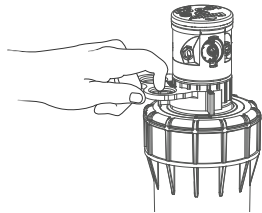

Figure 1
- 1 Slide the adjustment wrench PN 382800SP onto the grey adjustment ring below the nozzle turret (Figure 1).